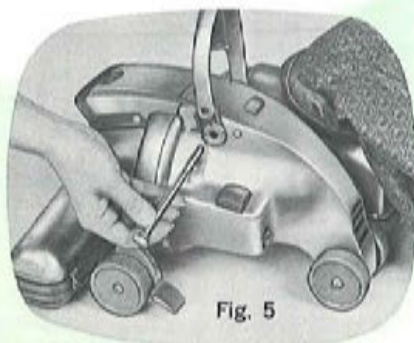

Fig. 5
**STEP 2:** Insert the fork of the Long Handle into the slide at top of Motor Unit (see figure 5).